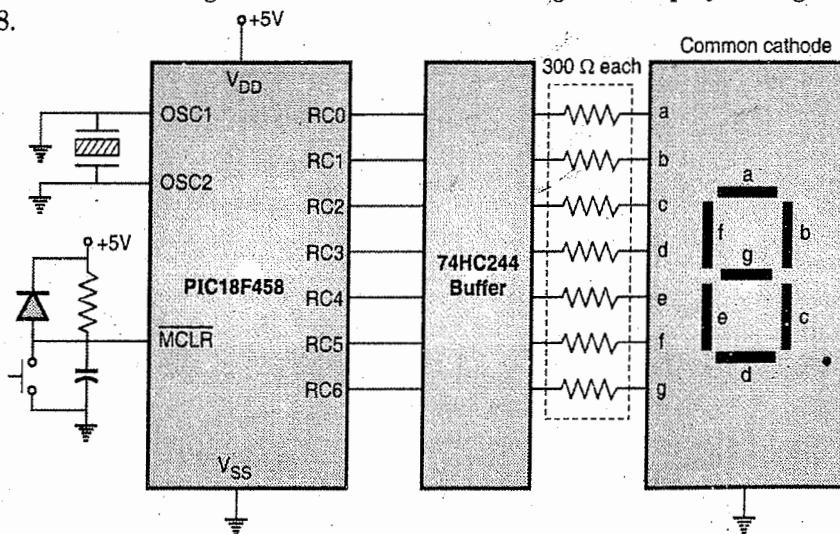

Fig. 10.5.5 : Interfacing common cathode seven segment display through buffer chip 74HC244 to PIC18F458
- Fig. 10.5.5 shows interfacing a common cathode seven segment display through buffer chip 74HC244 to PIC18F458.